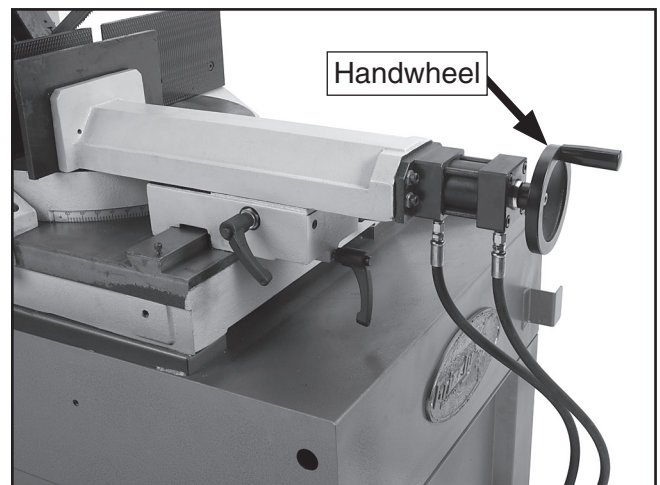

Figure 30. Vise options and controls.
4. Use the handwheel (**Figure 30**) to move the jaws to within 1/4" of the workpiece.